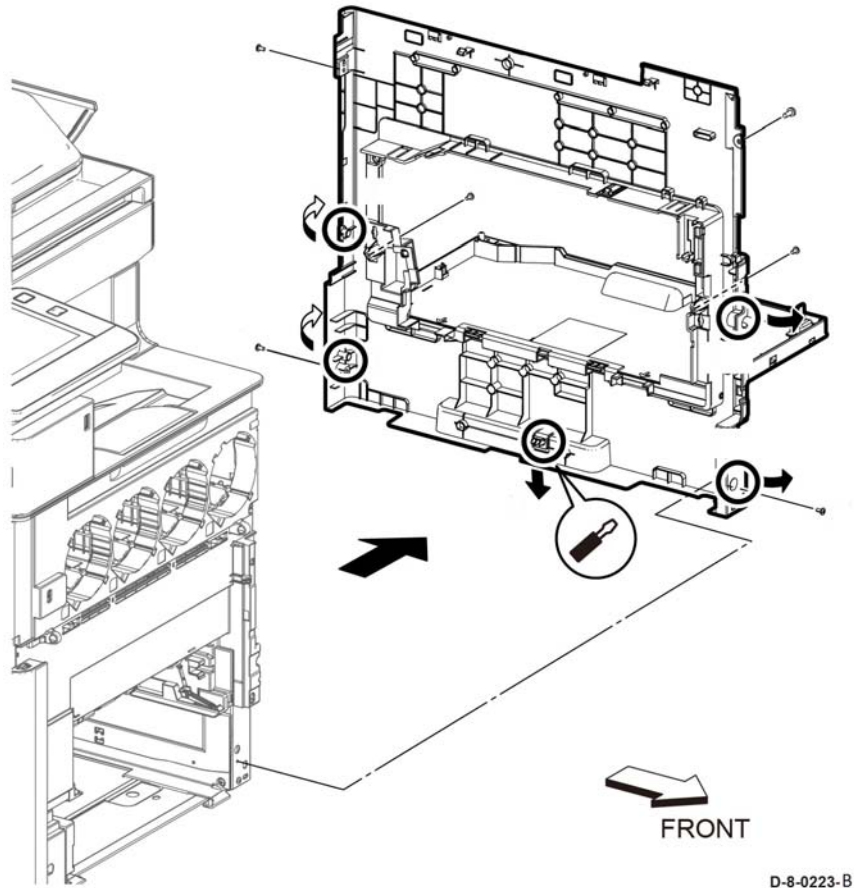

Figure 2 Remove the right side cover assembly (C505/C605/C605_Tall-tall)
3. Remove the items that follow, Figure 2:
5. Release one hook at the bottom of the right side cover assembly, Figure 2.
6. Perform the items that follow, **Figure 2**: